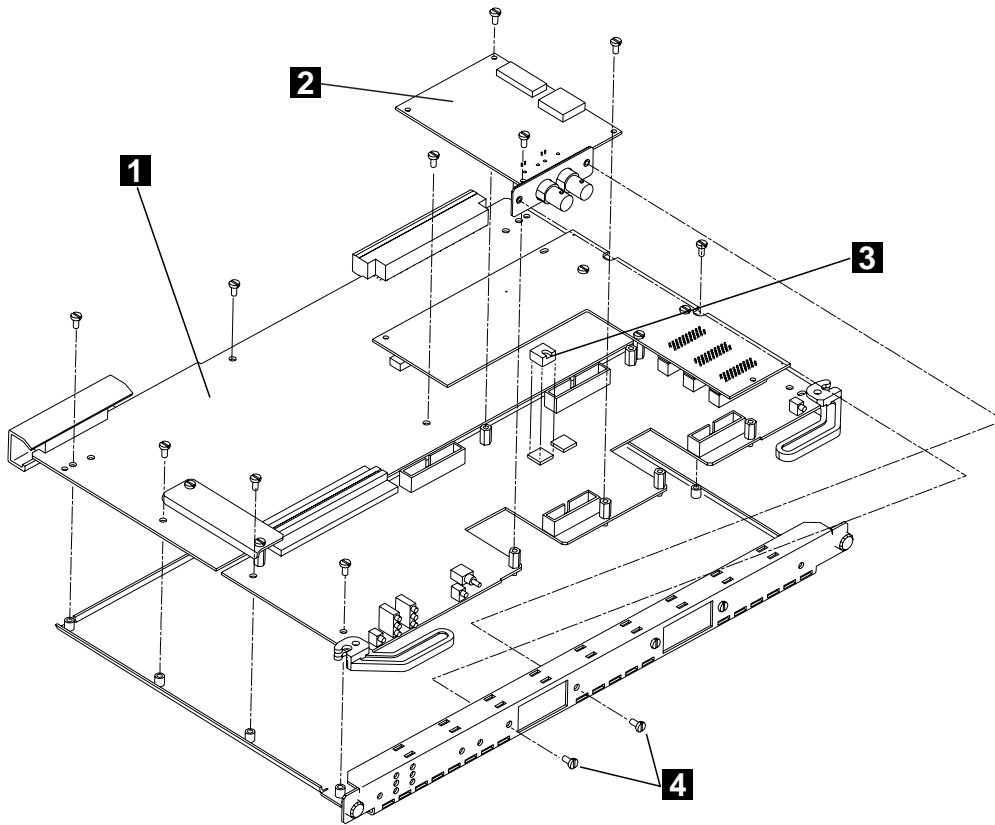

Figure 5. Installing a Daughter Card
- b. Remove the ten screws that secure the motherboard to its frame (see **1** on Figure 5 on page 31).
5. Place three of the screws that came with the daughter card into the metal posts and tighten them with a flat-tipped screwdriver. (see **2** on Figure 5 on page 31). Repeat with the second daughter card if you are installing two.
6. Install the VPD PROM chip(s) on the motherboard, making sure that the notch is aligned with the front of the module. (see **3** on Figure 5 on page 31).
9. Insert the two screws that came with the daughter card into the front panel to secure the daughter card(s), and tighten them with a screwdriver (see **4** on Figure 5 on page 31).